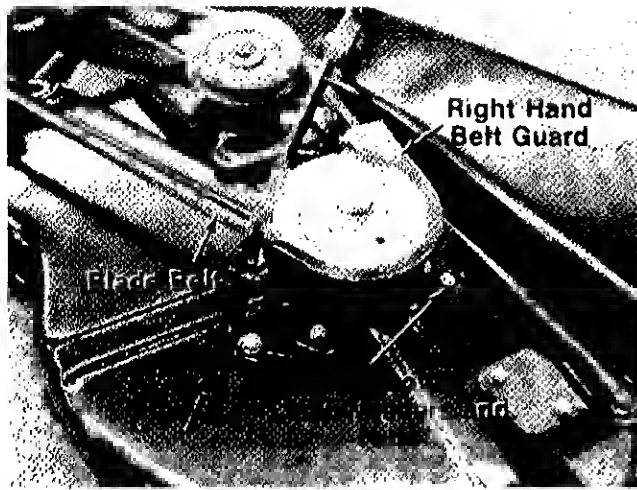

FIGURE 36.
3. Remove the right hand belt guard from deck. Remove two hex bolts, lock washers and hex nuts. See figure 36.